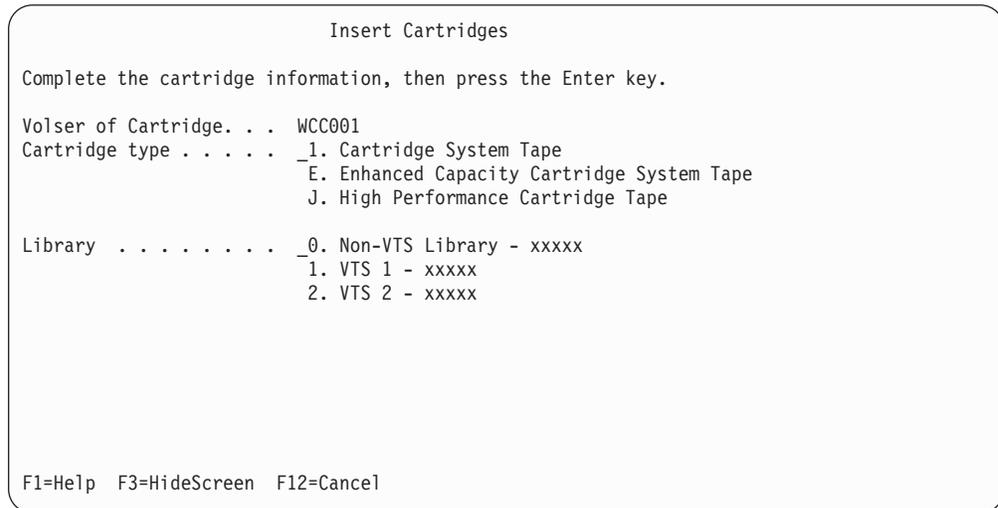

Figure 144. Manual Mode Insert Cartridges Screen
- F5** Allows you to manually add volumes to the tape library. The Insert Cartridges window appears, which contains prompts for cartridge insertion (see Figure 144 on page 234).
2. On the Insert Cartridges screen (Figure 144), enter the volser of the cartridge to be inserted. The cartridge volser is the set of up to six alpha-numeric characters on the label attached to the end of the cartridge.